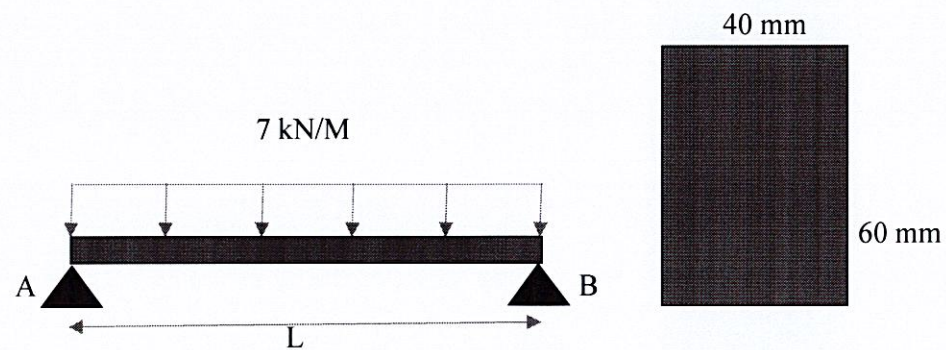

Figure 3(c)/ Rajah 3(c)
- (c) A beam with L m length is simply supported a uniformly distributed load of 7 kN/m . The diagram has cross sectional area as Figure 3(c). If the maximum deflection is 0.847 m . Determine: